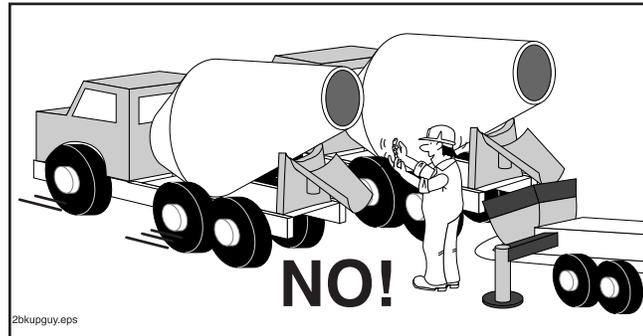

Figure 7
3.1 **⚠ WARNING! Crushing hazard. NEVER get between the pump and a mixer truck.** Never let anyone else stand between the pump and a mixer truck. If more than one mixer truck is delivering to the pump hopper, make sure no one is trapped between the mixer trucks, or between the mixer truck and the concrete pump before you begin backing towards the pump. See Figure 7.